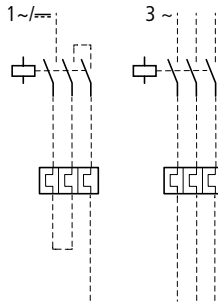

Figure 11: Mains wiring
► Connect the motor cables as shown in Fig. 11.